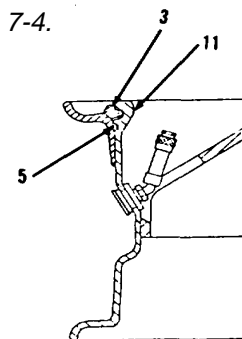

Figure 7-5.
7. Install preformed packing (5) in second (shallow) groove of wheel (11, Figure 7-5).